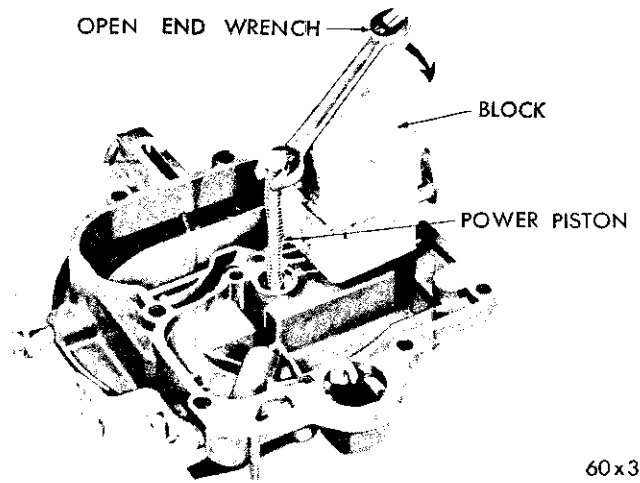

Fig. 16—Removing the Vacuum Power Piston
(7) Remove the vacuum power piston from the air horn, using an open end wrench and wood block, as shown in Figure 16. (Exert sufficient pressure on end of wrench to force piston out of its well in air horn. This assembly is staked in the air horn and